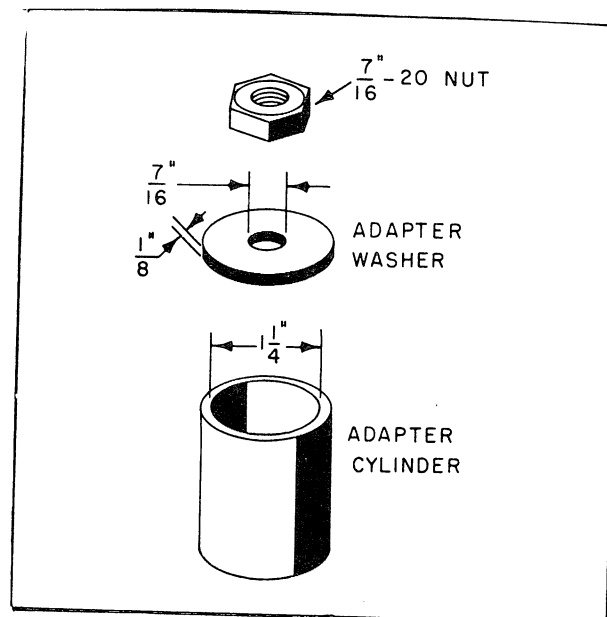

Figure 102
4. Push the WH8X58 activator shaft seal onto the drive tube as far as possible by hand. Then, using an adapter cylinder, a flat adapter washer, and a 7/16" - 20 hex-head nut, drive the seal on until it seats on the top of the drive tube. Dimensions for the adapter cylinder and washer are given in *Figure 102*. To use them, place the cylinder over the WH8X58 seal so that its bottom edge rests on the seal flange. Place the washer over the cylinder and onto the threaded portion of the activator shaft, and drive the seal down by turning the nut.